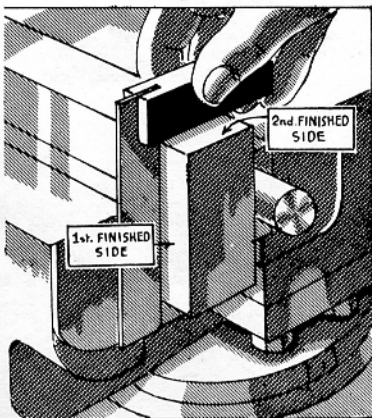

FIG. 286
11. Determine whether or not the finished surfaces are at right angles to each other. Hold the beam of a precision steel square against the surface just finished and the blade across the other finished surface (Fig. 286).
5. Remove burrs from the corners of the work with a file or abrasive stone. Clean the machined surface. Then check the work with a square as shown in Figure 286.